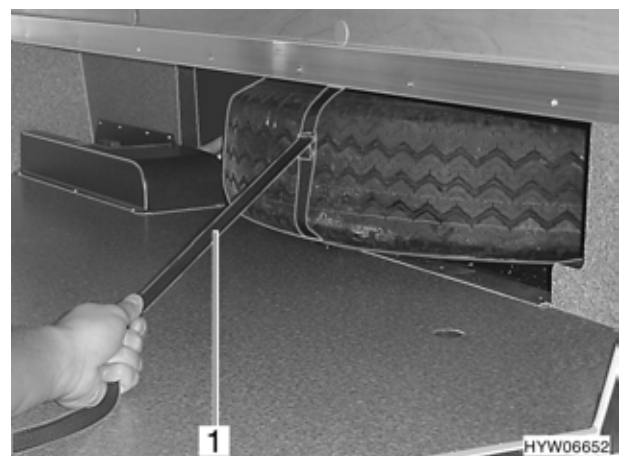

Fig. 178 Spare wheel under the floor (variant 1)
- Pull out spare wheel with the retaining strap (Fig. 178,1).